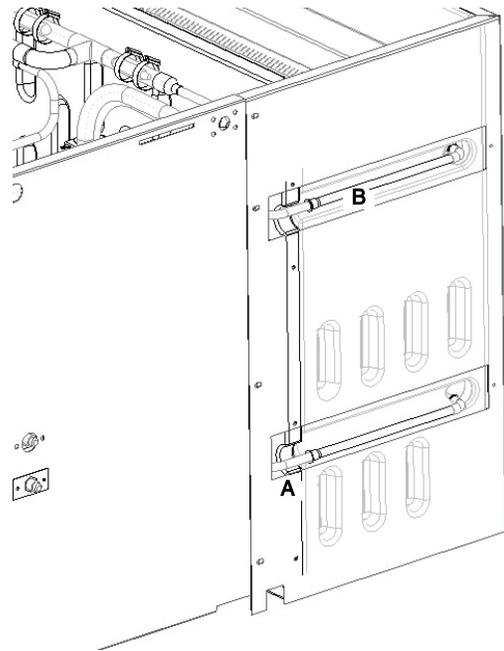

Figure 34.
37. Using clamps or other means, secure the insulation away from the joints, and braze the Heat Exchange Suction Line to the left hand evaporator inlet (A) and outlet (B) (FIGURE 34).